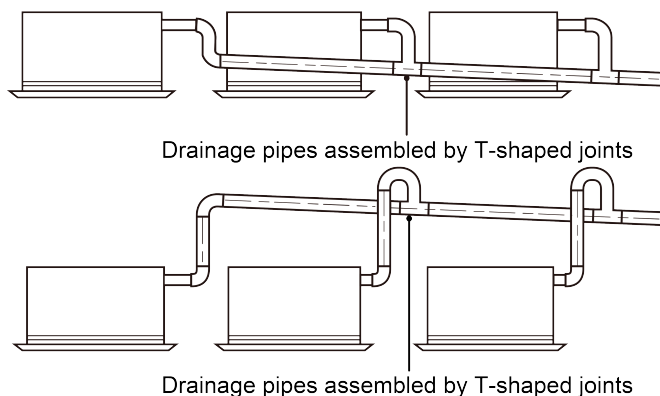

Fig.4.3.2
- (1) Drainage pipe should have the same diameter or larger diameter than the connection pipes (PVC pipe, outside diameter 25mm (1 inch), thickness $\geq$ 1.5mm (1/16 inch)).
- (2) Keep drainage pipe short and sloping downwards at a gradient of at least 1% for preventing forming air bubbles.
- (3) If the gradient of drainage pipe could not meet the installation requirements, raising pipe should be applied.
- (4) Insert the drainage hose into drain socket and then tighten the metal clamp securely.
- (5) Warp the sealing pad over drainage hose and metal clamp for heat insulation.
- (6) Make sure to perform insulation work for all drainage hoses in the room in order to prevent any possible water dropping due to dew condensation.
- (7) Apply the suitable diameter for converging drainage pipe according to the operating capacity of the unit, as show in Fig.4.3.2.